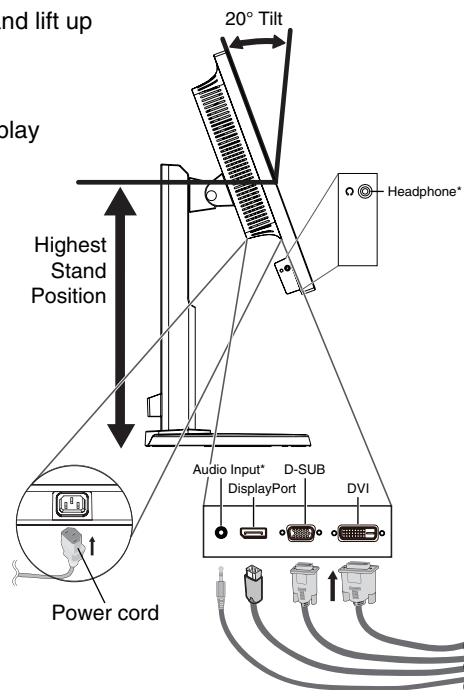

Figure C.1
- Connect all cables to the appropriate connectors (**Figure C.1**).